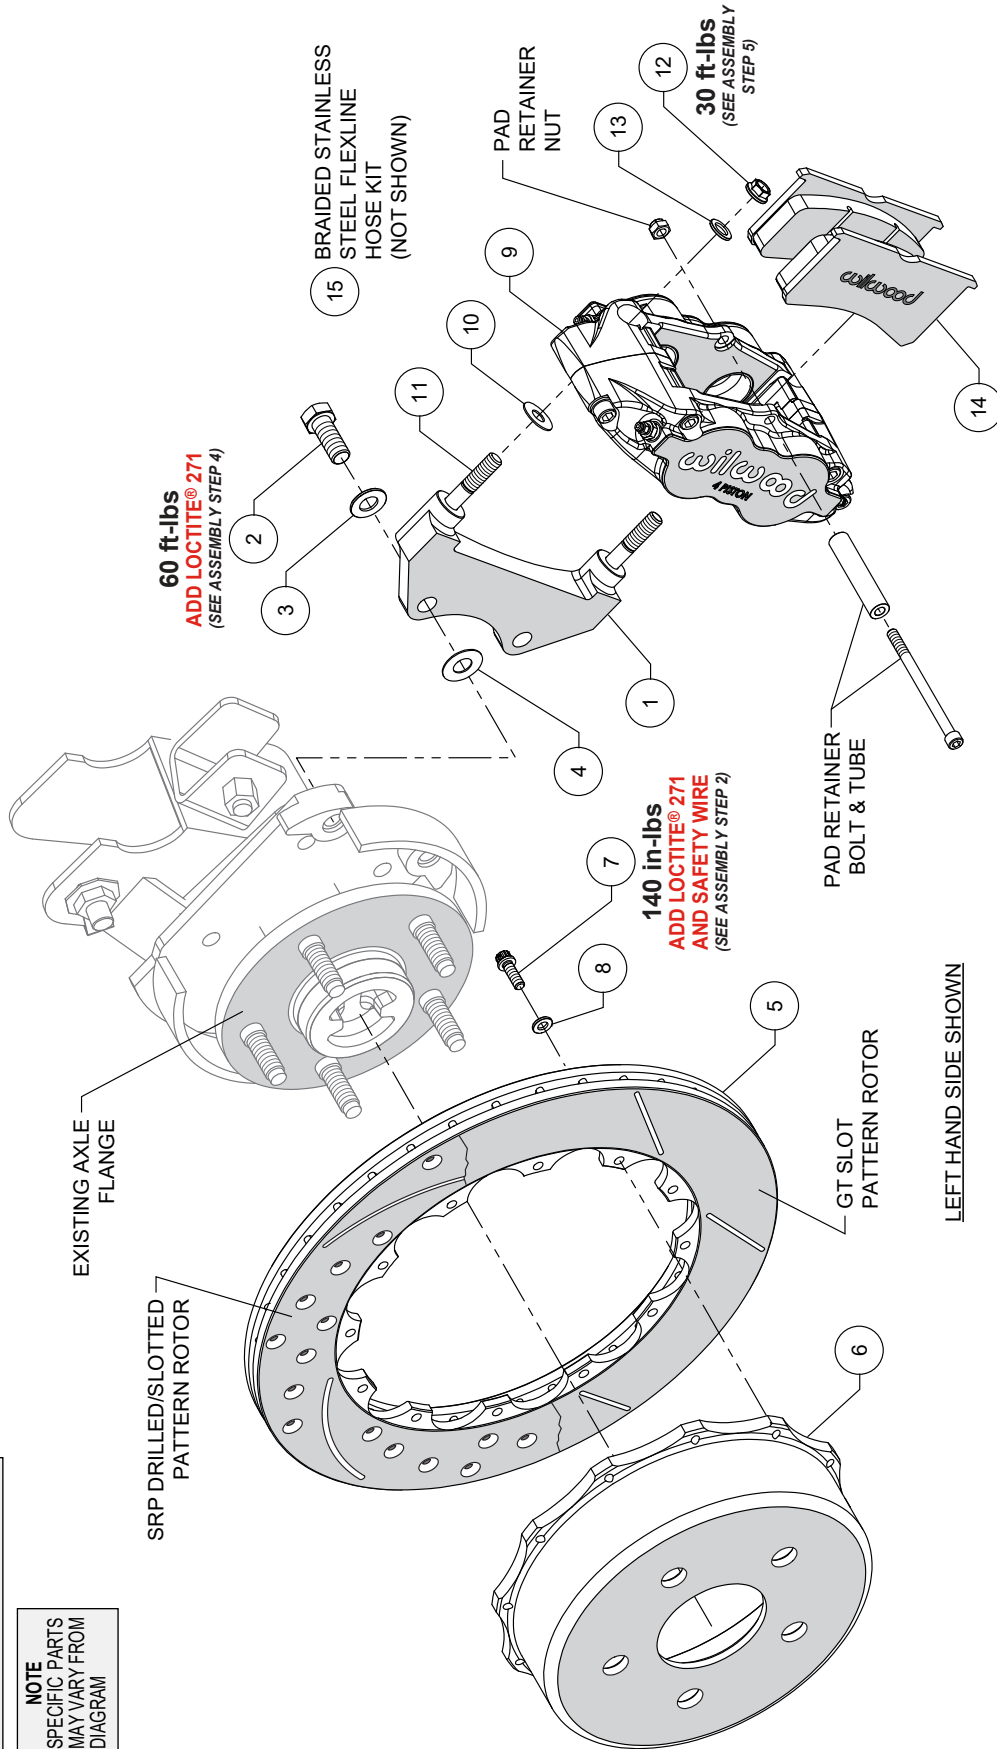
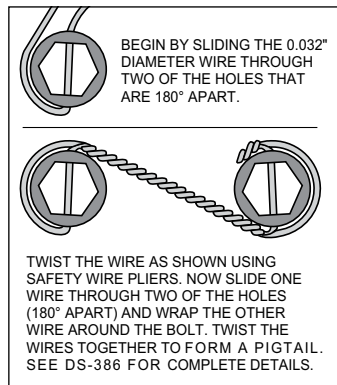

Figure 1. Typical Installation Configuration
Figure 3
Numbers in parenthesis refer to the parts list and Figure 1 on the preceding pages.
STEP 1 The caliper mount bracket (1) should initially be installed with clean, dry threads on the mounting bolts. Orient the bracket as shown in Figure 1 and Photo 1, and install using mount bolts (2) and washers (3). Initially place one .033" thick shim (4) on each bolt between the bracket and upright, Figure 1. Temporarily tighten the mounting bolts. **NOTE:** The bracket must fit squarely against the mount bosses on the upright. Inspect for interference from casting irregularities, machining ridges, burrs, etc. Later, after the caliper alignment has been checked, the mount bolts will be secured using red *Loctite*® 271.
STEP 2 Orient the rotor (5) and the hat (6) as shown in Figure 1 and Photo 2. Attach rotor to hat using bolts (7) and washers (8). Apply red *Loctite*® 271 to the bolt threads and torque to value shown in Figure 1 using a criss-cross pattern. The bolts must be safety wired using standard 0.032 inch diameter stainless steel safety wire as shown in Figure 3. Refer to Wilwood's data sheet DS-386 (available at www.wilwood.com/Pdf/DataSheets/ds386.pdf) for complete safety wire installation instructions.
STEP 3 Slide the rotor/hat assembly (5/6) onto the axle hub, Figure 1. **NOTE:** The hat must fit flush against the axle hub flange or excessive rotor run out may result. Install three lug nuts (finger tight) to keep the rotor/hat assembly in place while continuing with the installation.
STEP 4 Initially place one .035" thick shim (10) on each stud (11) as shown in Figure 1 and Photo 3. Mount the caliper (9) onto the bracket (1) using lock nuts (12) and washers (13), Figure 1. Temporarily tighten the lock nuts and view the rotor through the top opening of the caliper. The rotor should be centered in the caliper, Photo 4. If not, adjust by adding or subtracting shims (4) between the bracket and the mounting bosses. Always use the same amount of shims on each of the two mounting bolts. Once the caliper alignment is correct, remove the bracket mounting bolts (2) one at a time, apply red *Loctite*® 271 to the threads, and torque to value shown in Figure 1.
STEP 5 Remove the caliper pad retainer bolt, locknut, and tube from the caliper. Insert the brake pads (14) into the caliper, with the friction material facing the rotor, as shown in Photo 5. Check that the top of the brake pad is flush with the outside diameter of the rotor, Photo 6. If not, adjust by adding or subtracting shims (10) between the caliper and the bracket. After the caliper pad height is set, torque the caliper lock nuts (12) to value shown in Figure 1. Secure the brake pads in place with the pad retainer tube, bolt, and locknut.